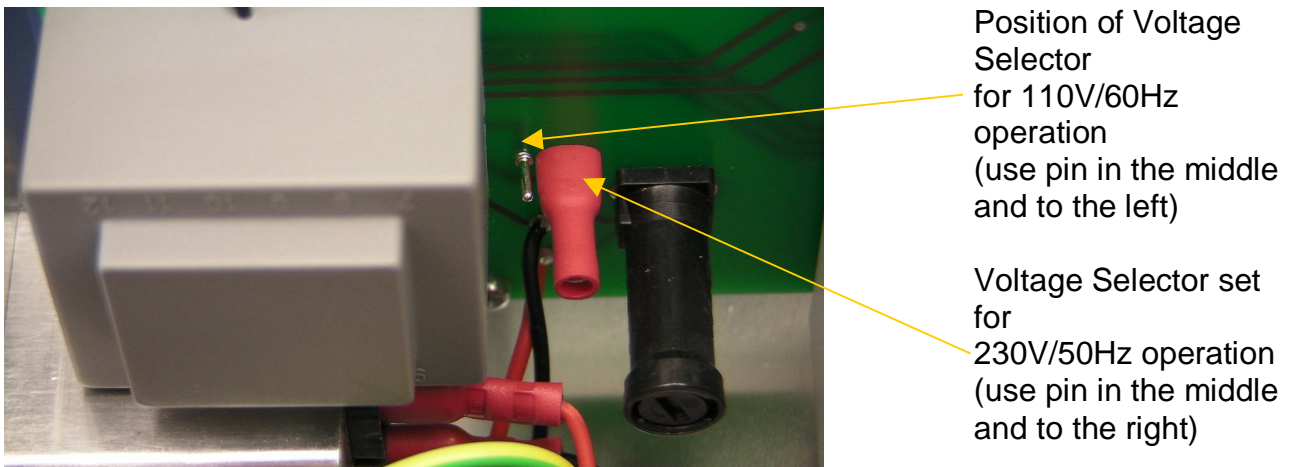

Figure 4.3: Position of Voltage Selector for 110V and 230V operation.
- Change the jumper setting as shown in Figure 4.3.